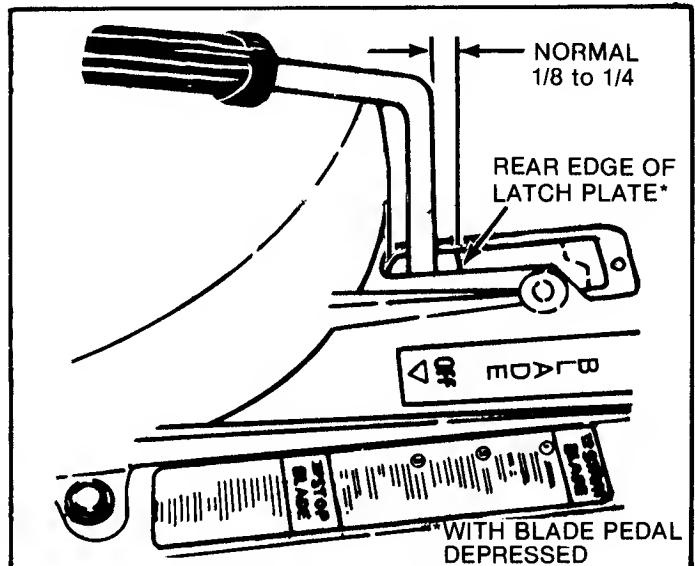

FIG. 8 — BLADE LEVER TRAVEL
STEP 4: Release the blade pedal to allow the blade lever to move to OFF position then depress the blade pedal again and check clearance between forward edge of the blade lever and the rear edge of the latch plate which should be within 1/8" to 1/4" (Figure 8). Repeat procedure in step 2 if needed to obtain correct clearance. When correct, hold the blade lever rearward and turn the jam-nut tight against the T-nut to lock in new position.